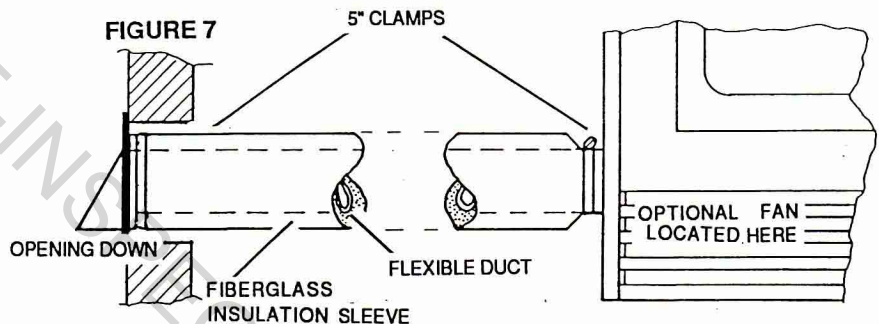

FIGURE 7
Use Napoleon fan kit #NZ 130KT (For location see Figure 7). If the optional fans are to be installed, make provisions at this time by routing a 110 volt power line to the fireplace. The variable speed switch that controls fan speed can be installed on a room wall. Detailed installation instructions are included with the fan kit.
3. At each end, carefully pull back the insulation sleeve exposing the flexible duct (Figure 7). Place the insulated flexible duct over the register tube and over the fireplace outside air connector. Carefully push the insulation sleeve back over the duct. Using the clamps, fasten the insulated flexible duct into place on both sides.